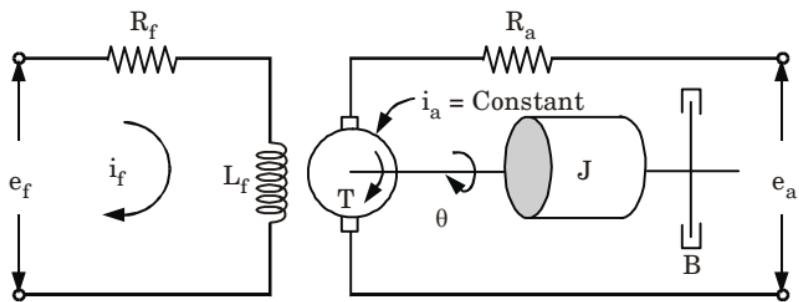

Fig. 3.
- A schematic diagram of a field controlled DC motor (DC servo motor) shown in Fig. 3.